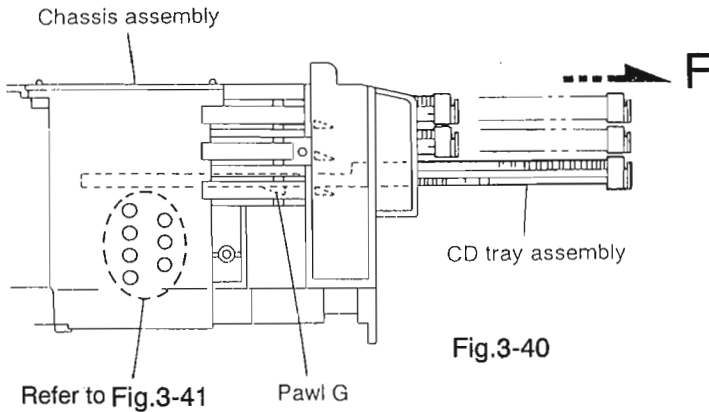

Fig.3-40
12. Make sure that the driver unit elevator is positioned as shown in Fig.3-40 from to the second or fifth hole on the left side face of the CD Traverse mechanism assembly.
14. Pull out all of the three stages of CD tray assembly in the arrow direction "F" until these stages stop (See Fig.3-40).